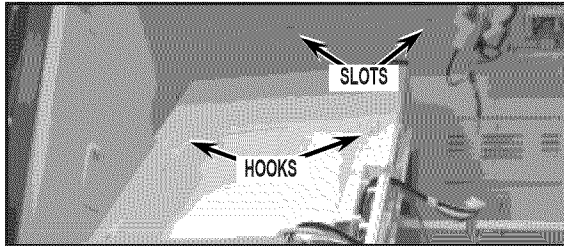

FIGURE 23
29. Position ice box assembly over air ducts on the rear wall of the cabinet while engaging the hooks on top of the assembly into the slots in the top of the cabinet. See *Figure 23*.